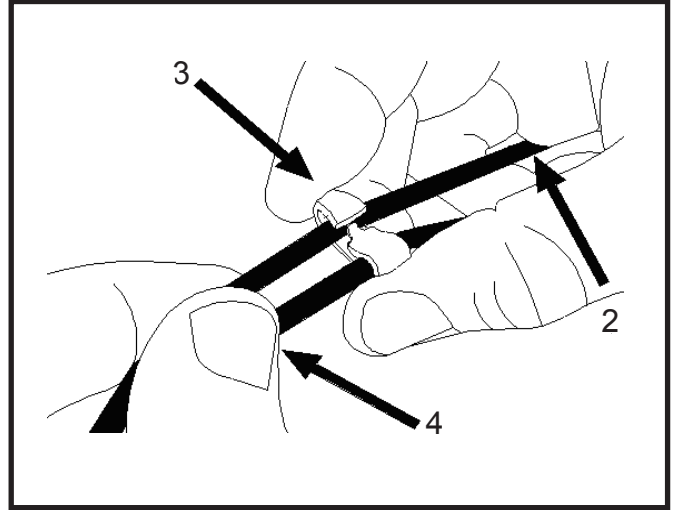

Fig. 6
2. Grasp the bungee cord adjacent to the hook clip and wrap two or three fingers around to hold it securely as shown (Fig.6).